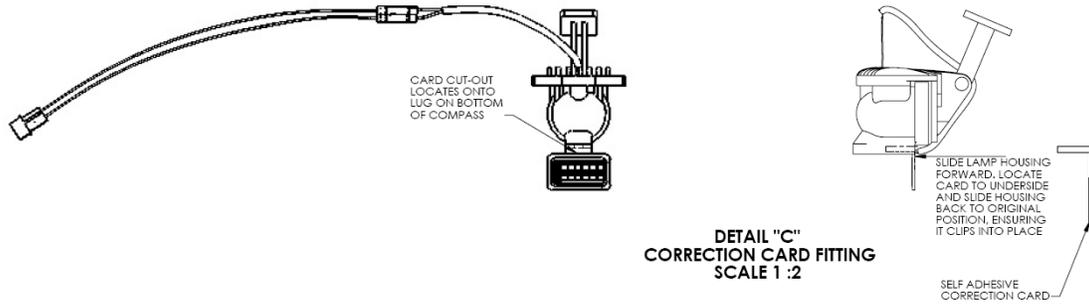

Figure 34-31 Compass Installation
2. Install compass card as shown in Figure 34-31 above.
8. Install compass card as shown in Figure 34-31 on page 54 of this chapter.